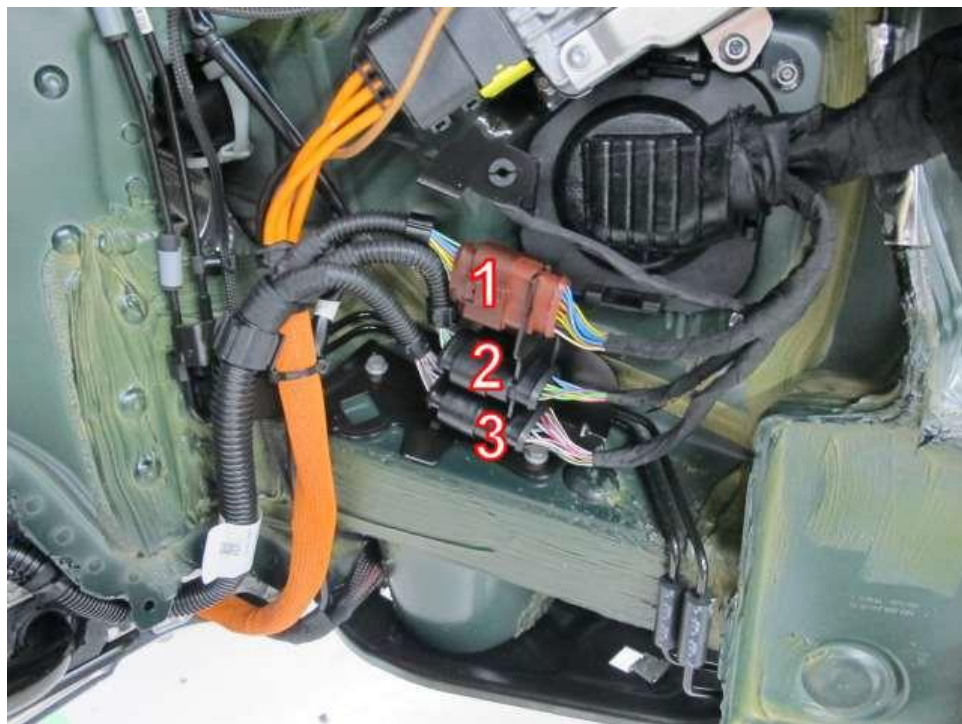

Figure 2
- Referring to Figure 2 and the applicable current flow diagram - Disconnect the three connections